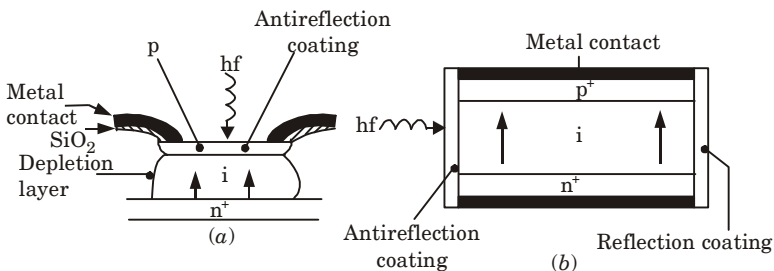

Fig. 4. (a) Structure of a front illuminated silicon p-i-n photodiode
3. Fig. 4 shows the structure of two types of silicon p - i - n photodiode for operation in the shorter wavelength band below $1.09 \mu\text{m}$.